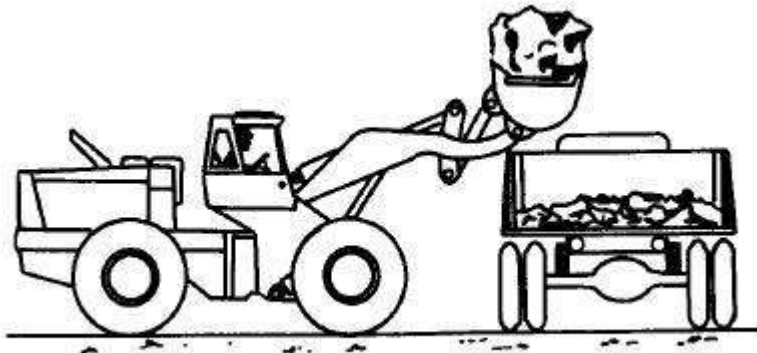

Fig. 4.50. Dumping Large Rocks Into Truck
10. Put enough loose rock or dirt into the truck first to act as cushioning material before proceeding to load larger rocks (Figure 4.50). Place large rocks into the center of the truck from the lowest possible height.